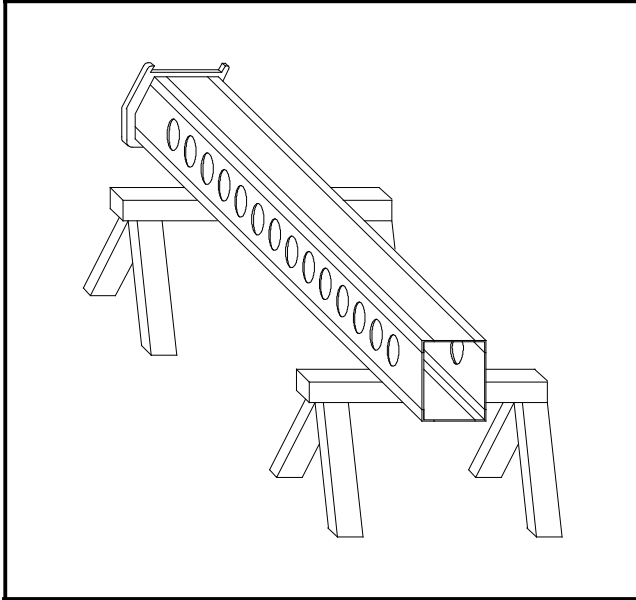

Figure 3
3. Set boom section up on blocking or sawhorses of equal height approximately 4 ft (1.2 m) from each end of the subject boom section. Make sure the width of the blocking or sawhorses is greater than the width of the boom section. See Figure 3.